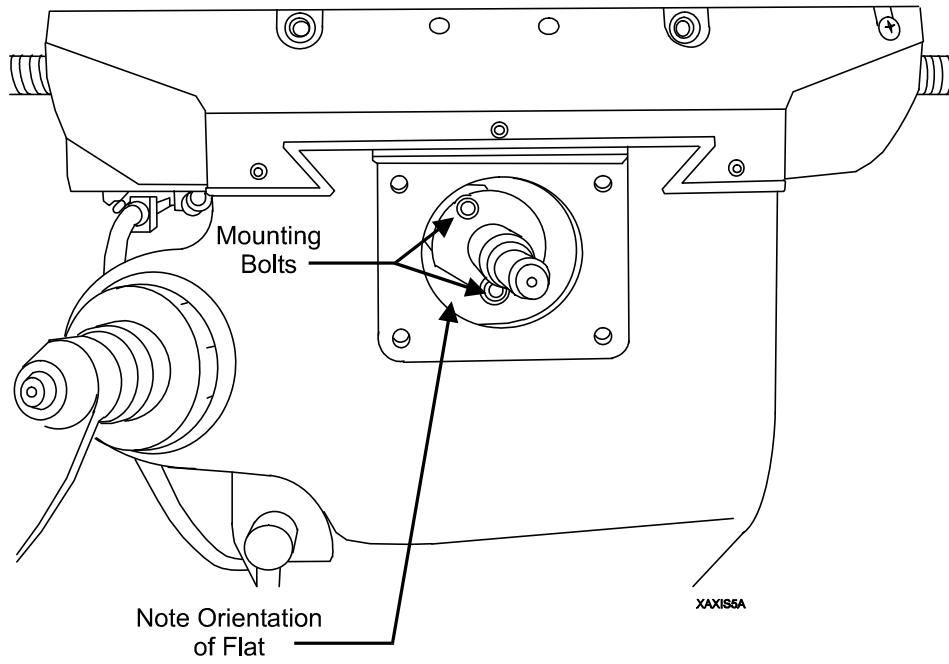

Figure 3-3, Ball Nut Orientation
18. Insert the X ballscrew into the yoke with the flat up. Refer to **Figure 3-3, Ball Nut Orientation**. Orient the ball nut flange to the left of the yoke. Use two 10-32 x 1-inch machine screws, washers and lock washers, and two 5/16-18 x 1-3/4-inch machine screws, washers and lock washers provided, to attach the ballscrew to the yoke. Lash the oil lines together with tie-wraps so that they will not touch the bottom of the table when it is reinstalled. Tighten completely.